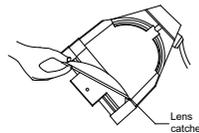

Figure 4
7. When the lens drops, remove your finger, allowing the lens to slide forward until it rests on the lens catchers (**Figure 4**).
2. The bottom of the lens has a cluster of four notches. Place the two center notches behind the tabs at the bottom of the lens rotating ring (**Figure 4**).